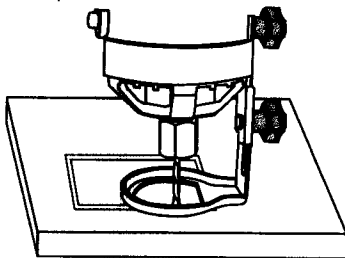

Fig. 7
7. When the motor is up to full speed, slowly tip the tool to an upright position, letting the bit cut into the workpiece (see Fig. 7). Once the tool has reached the upright position and the bit has cut through the workpiece, slowly move the tool in a clockwise direction using slow steady pressure to make the cut. NOTE: Except for cutting around outlet boxes in drywall, always cut in a clockwise direction.